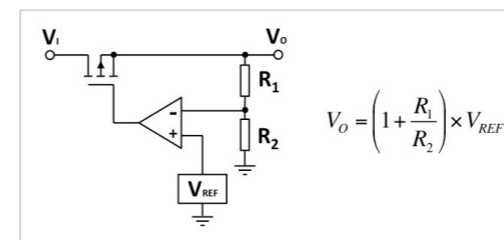

Figure 2: Simplified diagram of a linear series regulator
Greater sophistication in linear regulation is achieved with a series design that uses a pass transistor to regulate the load current and drop the input voltage to the required output level. This concept is shown in **figure 2** and such designs are typical of integrated circuit (IC) regulators and also low drop-out (LDO) regulators, which often provide a regulated supply at the “point of load”.